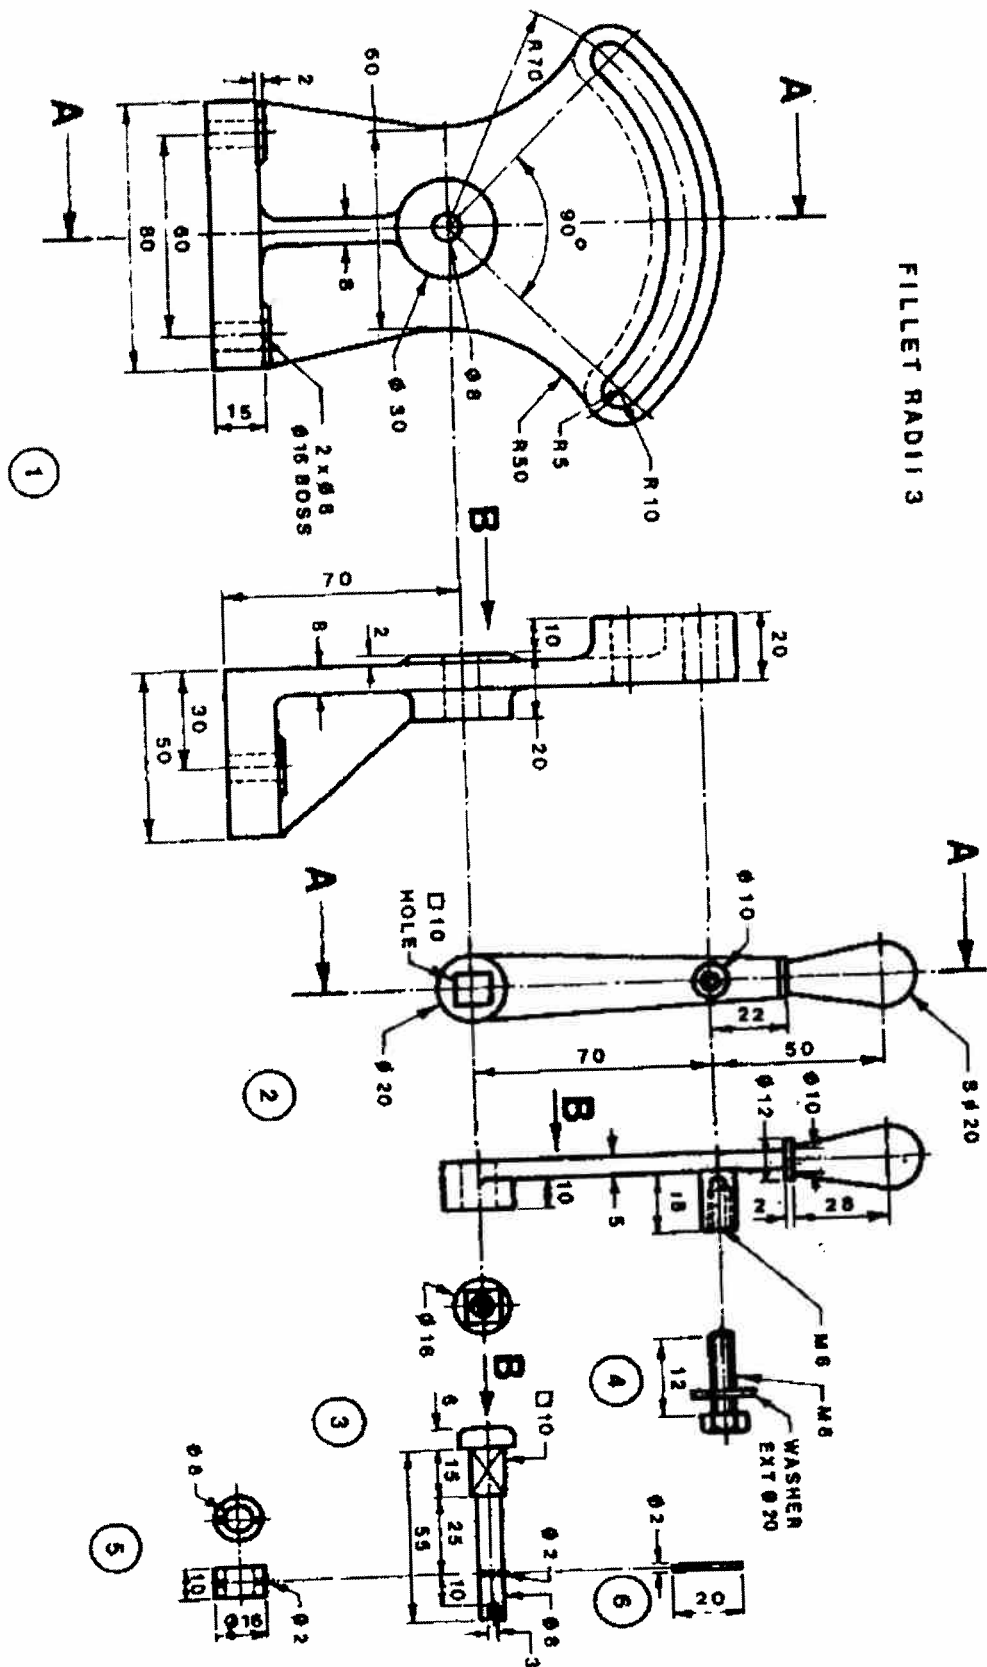

Fig. Q1
The electricity adjusting unit shown in Fig. Q1 consists of a body (1), a handle (2), a pivot (3), a screw (4), a collar (5) and a pin (6). Draw in 3rd Angle Projection to a suitable scale the following views of the completely assembled adjusting unit: